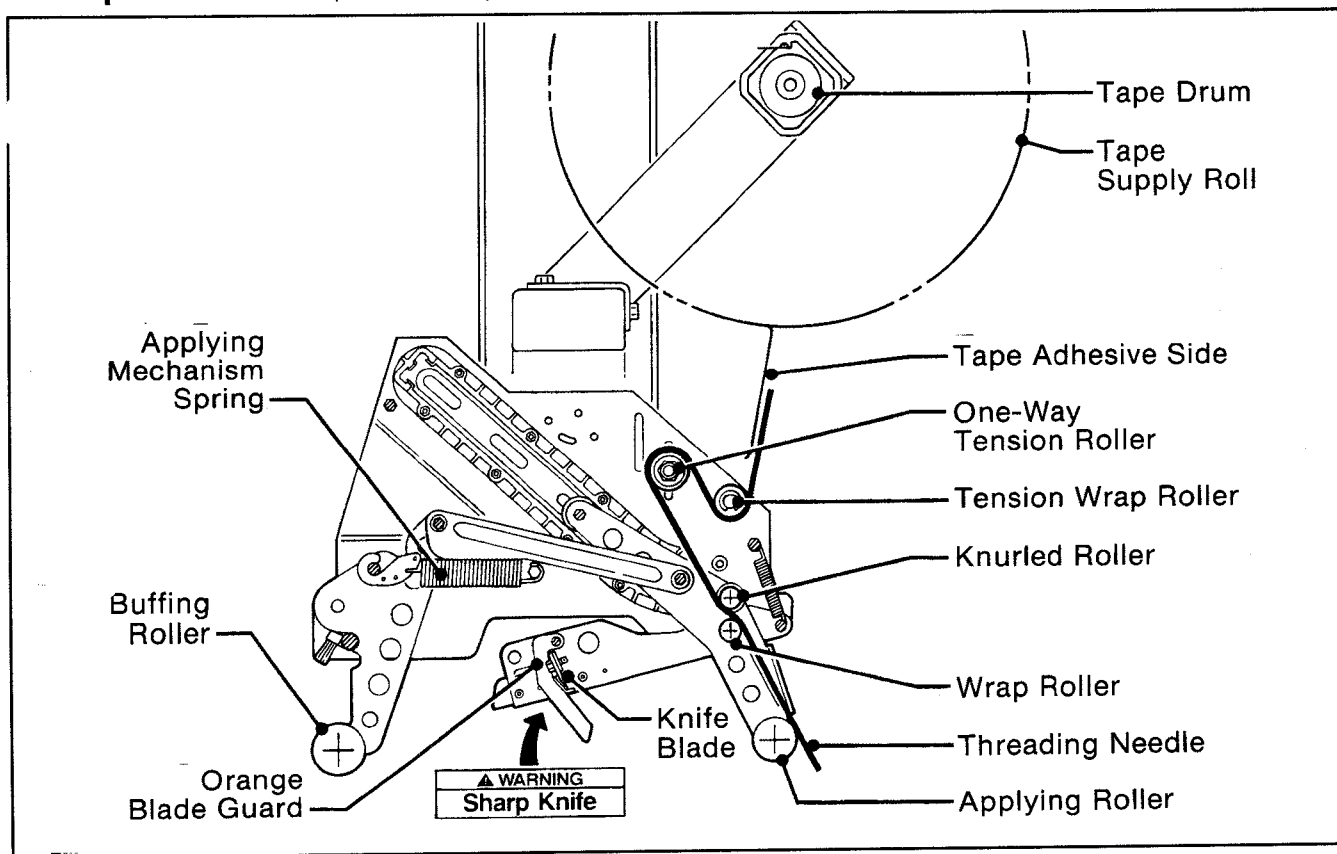

Figure 2-13 - Tape Threading Diagram, Upper Taping Head (Left Side View)
1. BOTH THE UPPER AND LOWER TAPING HEADS UTILIZE EXTREMELY SHARP KNIFE BLADES. THE BLADES ARE LOCATED UNDER THE ORANGE BLADE GUARD WHICH HAS THE "WARNING - SHARP KNIFE" LABEL. BEFORE WORKING WITH THE TAPING HEADS OR ATTEMPTING TO LOAD THE TAPE, REFER TO FIGURES 2-13 AND 2-14 AND IDENTIFY THE BLADE LOCATION. KEEP HANDS OUT OF THESE AREAS EXCEPT AS NECESSARY TO SERVICE THE TAPING HEADS.
The applying mechanism spring, shown in Figures 2-13 and 2-14, controls applying and buffing roller pressure on the box and returns the mechanism to the reset position. The spring pressure setting, as shown in Figure 3-3A, is for normal operation but is adjustable.